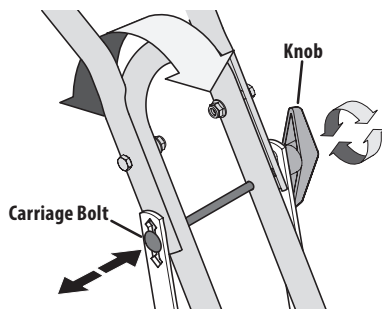

Figure 4
- There are three height adjustment holes in the handlebar support bracket. Use a setting that will position the handlebars at approximately waist level when the tines are 3-4 inches into the soil. To adjust the height of the handlebars loosen the knob on the handle, pull out the carriage bolt, adjust to the desired setting, push the carriage bolt in until the square portion of the bolt locks into place and re-tighten the knob. See Figure 4.